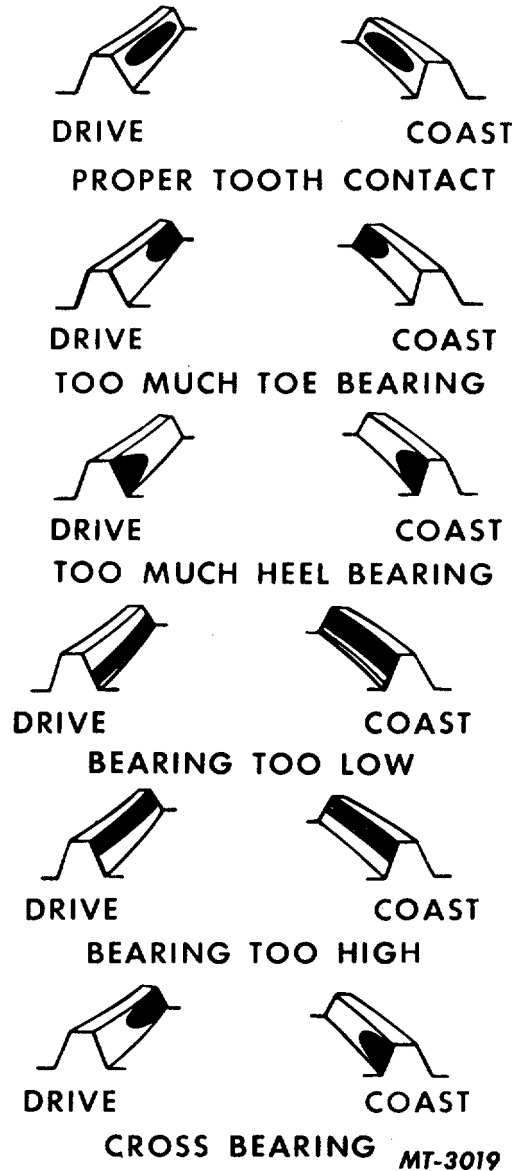

Fig. 20 Tooth Contact Impressions
42. When the pinion is rotated, the red lead is squeezed away by the contact of the teeth, leaving bare areas the exact size, shape and location of the contacts (Fig. 20).
44. With adjustments properly made, a correct tooth contact similar to that shown in Fig. 20, will be secured. The area of contact starts near the toe of the gear and extends about 62 1/2 per cent of the tooth length. This adjustment results in a quiet running gear and pinion set which, because the load is distributed over the teeth within the proper area, will deliver all the long service built into it.